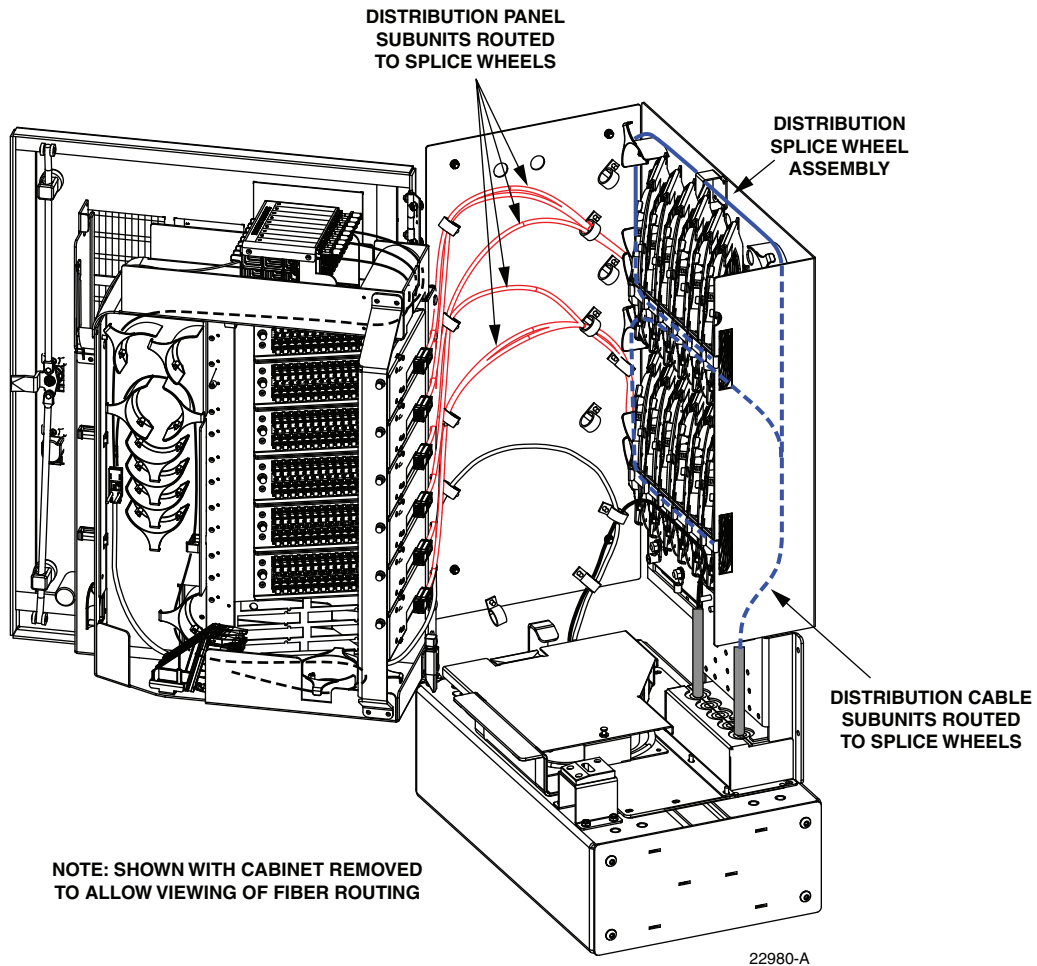

Figure 32. Distribution Splice Wheels and Distribution Panel Subunit Routing
1. Identify and locate the distribution panel subunits that are routed from the back of each panel to the splice wheels as shown in Figure 32.